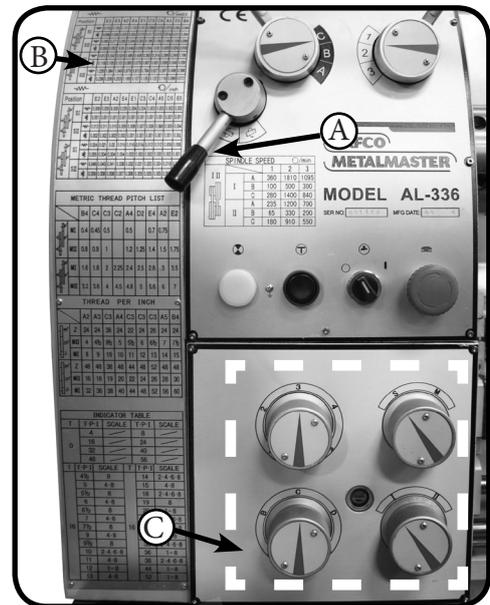

Fig. 34
- A. Feed Direction Lever:** Selects the direction for power feed. When the lever is positioned as shown (Fig. 34), the carriage will move to the left along the bed, or the cross feed will travel toward the rear of the lathe.
- C. Quick-Change Gearbox Feed Dials:** Position these dials to select the different threading selection. (Fig. 34)